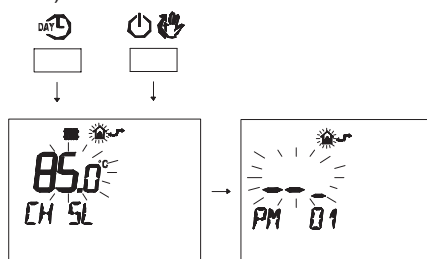

Fig. 8.27
- Press buttons **DAY** and **ON** at the same time to enter transparent programming (Fig. 8.27).